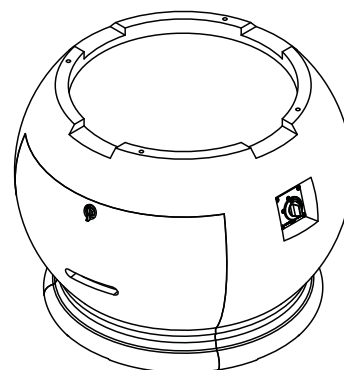

Fig. 18-1 Place base
1. **CAREFULLY** place the base in an appropriate location (see Fig. 18-1, and refer back to the LOCATION section if needed).